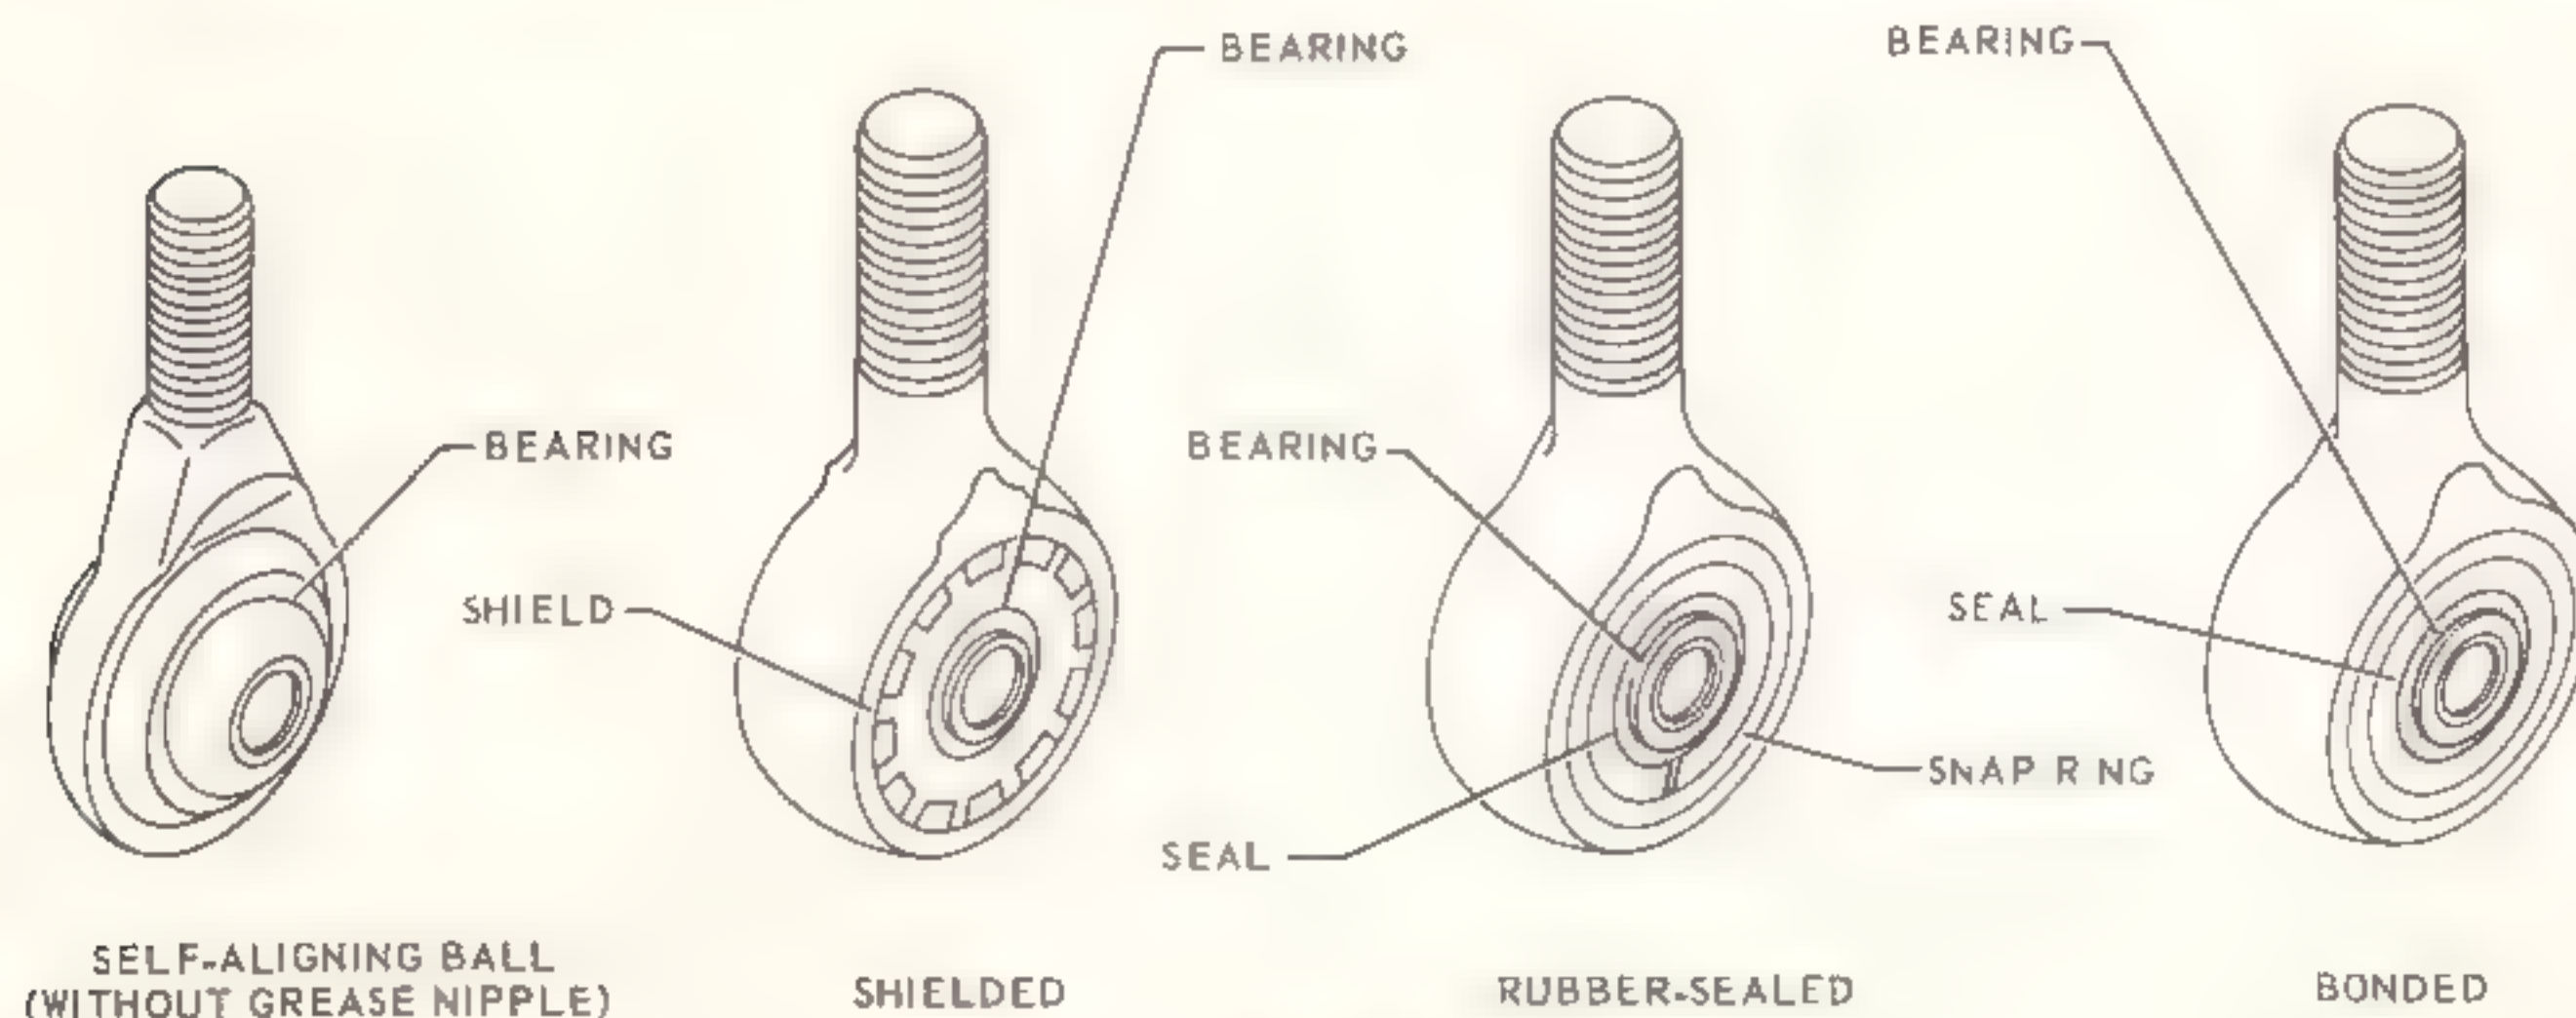

Figure 1-5. Identification of bearing seals
1-37. *Nonlubricated Bearings.* Inspect bonded, seal-type bearings and self-aligned, ball-type bearings, without grease nipple (figure 1-5) for condition. These bearings cannot be relubricated and must be replaced as necessary.
c. Fasten a bearing lubrication adapter to shielded bearings (figure 1-5) to allow use of a normal gun tip.
1-40. *Repacking Sealed Bearings.* All sealed bearings, including sealed, steel band-type rod end bearings and rubber-sealed bearings (figure 1-5), require periodic repacking with grease. Rotating bearings (360 degrees), especially those operating at high speeds, are normally packed one-third full since excess grease contributes to bearing temperature rise. Oscillating bearings are normally packed full of grease to prevent corrosion due to fretting and moisture. Bearings which have been idle for 2 years or more require repacking before use. In many installations, snap rings and seals may be removed from bearings without disassembling components to allow repacking. Remove split metal snap ring by inserting a suitable tool, such as a screw-